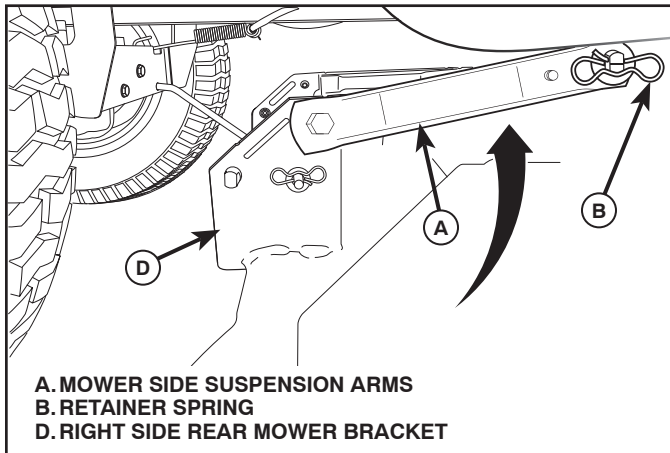

Fig. 31
6. ATTACH MOWER SIDE SUSPENSION ARMS (A) TO CHASSIS (See Fig. 31)
- Position front hole in side suspension arm (A) over pin on outside of tractor chassis and secure with large washer and large retainer spring (B).